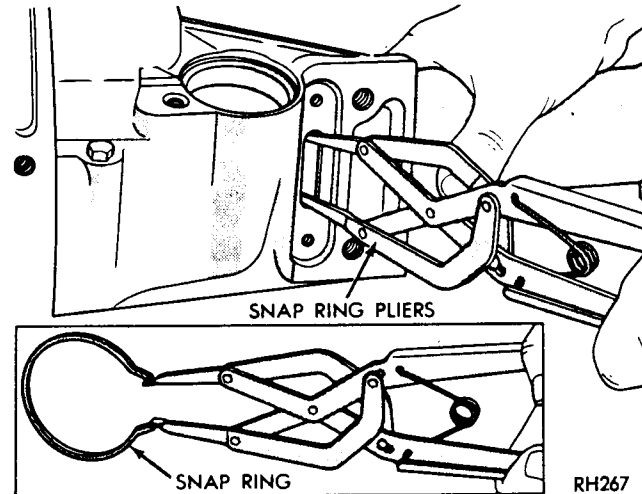

Fig. 7—Remove or Install Extension Housing
(3) Remove bolts securing extension housing to the crossmember. Raise transmission slightly with service jack, then remove center crossmember and support assembly.
(4) Remove extension housing to transmission bolts. When removing or installing extension housing (step 6), the gearshift lever must be in "1" (low) position. This positions parking lock control rod rearward so it can be disengaged or engaged with the parking lock sprag.
(5) Remove screws, plate, and the gasket from bottom of extension housing mounting pad. Spread large snap ring from output shaft bearing (Fig. 7).
(1) Place a new extension housing gasket on the transmission case. Position output shaft bearing retaining snap ring in extension housing. Slide extension housing on output shaft guiding the parking lock control rod knob past the parking sprag. While spreading large snap ring in housing (Fig. 7), carefully tap housing into place, then release the snap ring. Make sure snap ring is fully seated in bearing outer race ring groove.
(2) Install and tighten extension housing bolts to 32 ft. lbs. (43 N·m).
(3) Install gasket, plate and screws on bottom of the extension housing mounting pad.
(4) Install the center crossmember and rear mount assembly, tighten retaining bolts. Lower transmission to install extension housing to support bolts and tighten to 50 ft. lbs. (68 N·m).
(5) Install the speedometer pinion and adapter.
(6) Carefully guide front universal joint yoke into extension housing and on the output shaft splines. Align marks made at removal and connect propeller shaft to rear axle pinion shaft yoke.
(7) Add fluid to transmission to bring up to proper level.